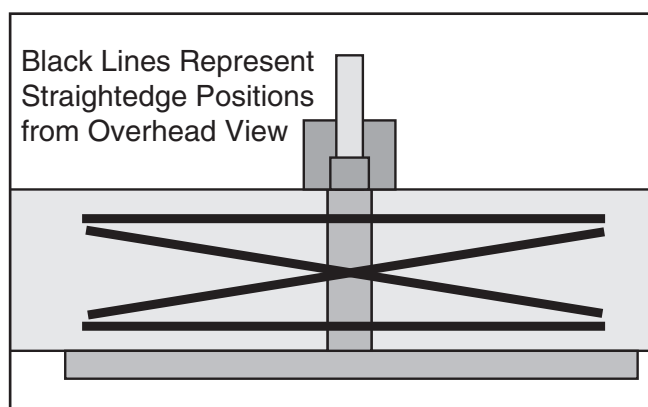

Figure 62. Straightedge positions for checking infeed/outfeed table parallelism.
3. Place the straightedge in the positions shown in **Figure 62**. In each position, the straightedge should sit flat against both the outfeed table and the infeed table—you should not see any gaps between the bottom of the straightedge and the infeed table.
3. Place the straightedge in one of the positions shown in **Figure 62**.
6. Continue adjusting the infeed table until it is parallel with the outfeed table in each of the positions shown in **Figure 62**. Some trial and error and a good deal of patience will be needed to successfully accomplish this adjustment.